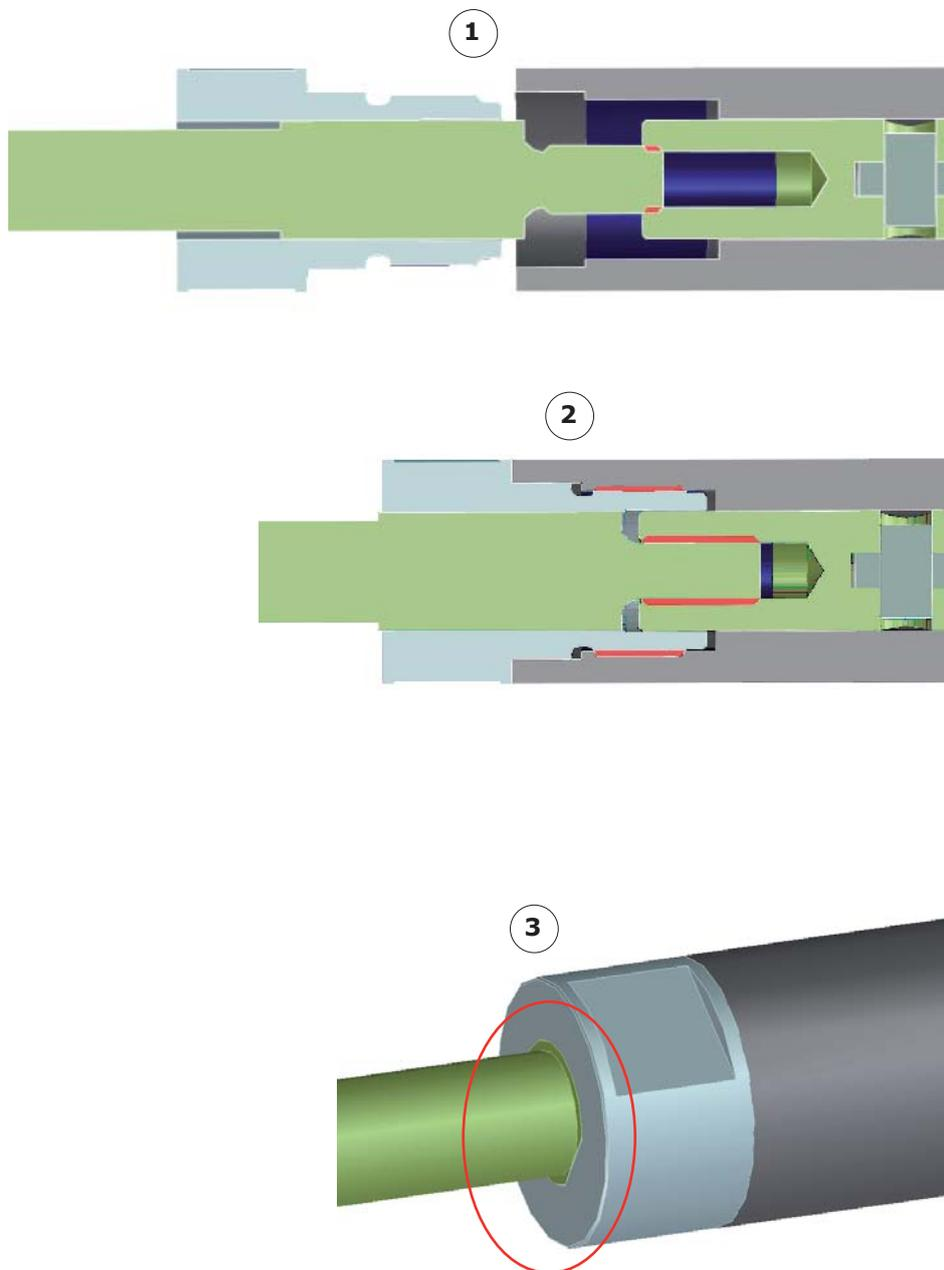

Fig.5.41 - Installing the tie rod
- To reassemble the tie rod, begin by lightly tighten the tie rod in the support tie rod. Half net about (Fig.5.41 - Rep.1).
- Then tighten the bush nut (Fig.5.41-Rep.2).
- Check that the tie Rod at the \emptyset is flush with the nut (Fig.5.41 - Rep.3).